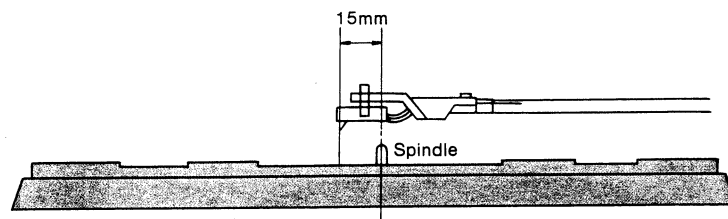

Fig. 6 Overhang Adjustment
2. OVERHANG ADJUSTMENT (Refer to Fig. 6)